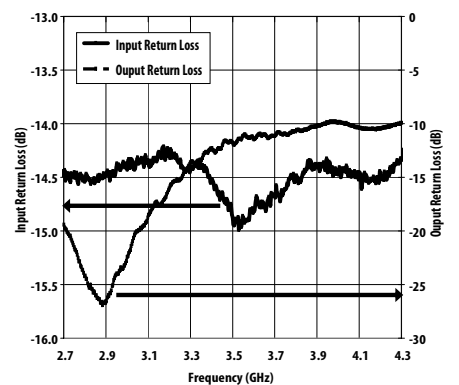

Figure 31. Input and Output Return Loss vs Frequency
- Measurements obtained using demo board described in Figure 31 and Table 1, List 1. Input and output board losses have been de-embedded.
- Measurements obtained using demo board described in Figure 31 and Table 1, List 3. Input and output board losses have been de-embedded.
1. Measurements obtained using demo board described in Figure 31 and Table 1, List 4. Input and output board losses have been de-embedded.